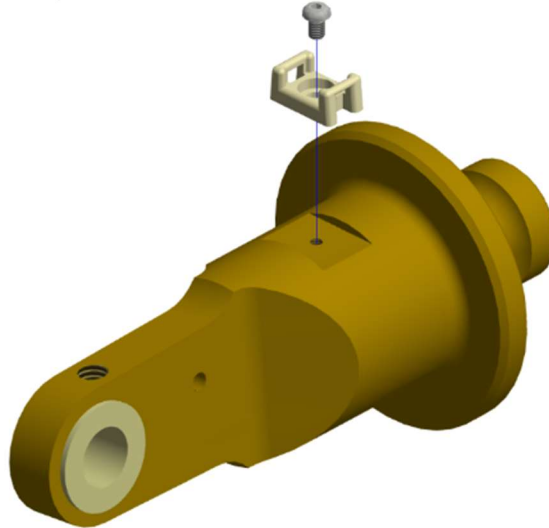

Figure 11-30. Attach the Cable Tie Mount (6002036)
- 11.3.7 Attach the Cable Tie Mount (6002036) to the Distal Upper Arm Tube Assembly (474-6115-1,2) with one M2.5 X 0.45 X 4 LG. BHCS (Figure 11-30).